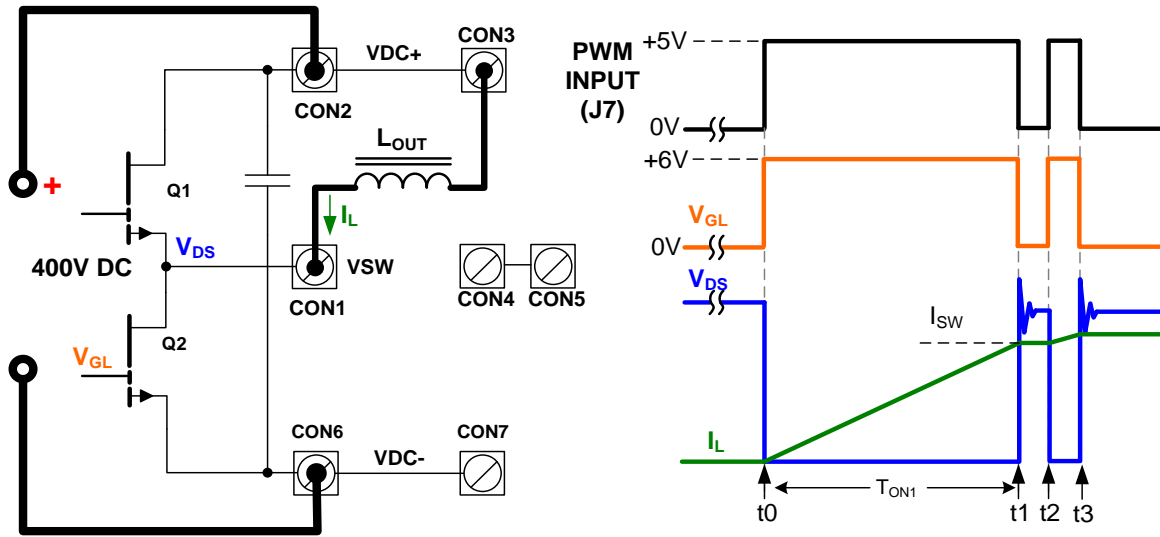

Figure 13 Double pulse test setup
The circuit configuration and operating principle can be found in Figure 13:
- d. Set High voltage (HV) DC supply voltage to 0V and ensure the output is OFF. Connect HV supply to **CON2** and **CON6**.
- c. Set up signal generator to create the waveforms as shown in Figure 13. Use equation  $I_{sw} = (V_{DS} * T_{ON1}) / L$  to calculate the pulse width of the first pulse and ensure the  $I_{sw\_max}$  is  $\leq 30A$  at 400VDC.